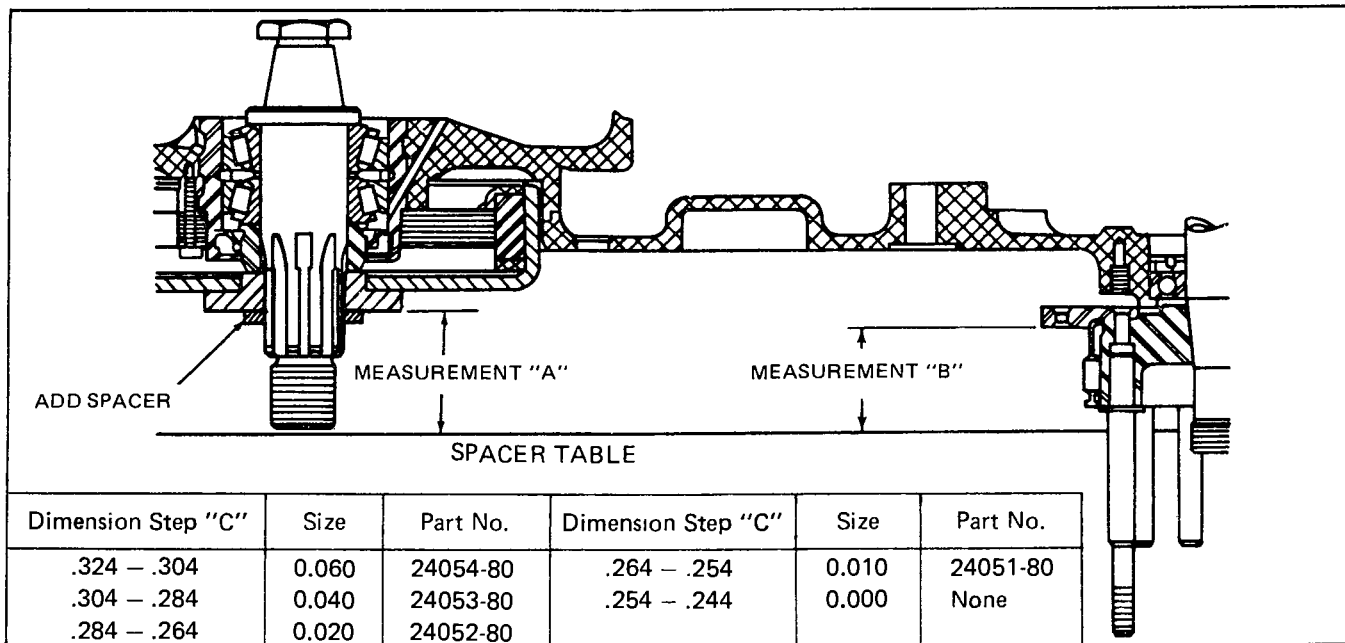

Figure 2. Primary Belt Alignment
2. With clutch shell assembly and compensating sprocket removed (See Figure 2), determine spacer thickness as follows:
EXAMPLE (refer to Figure 2).